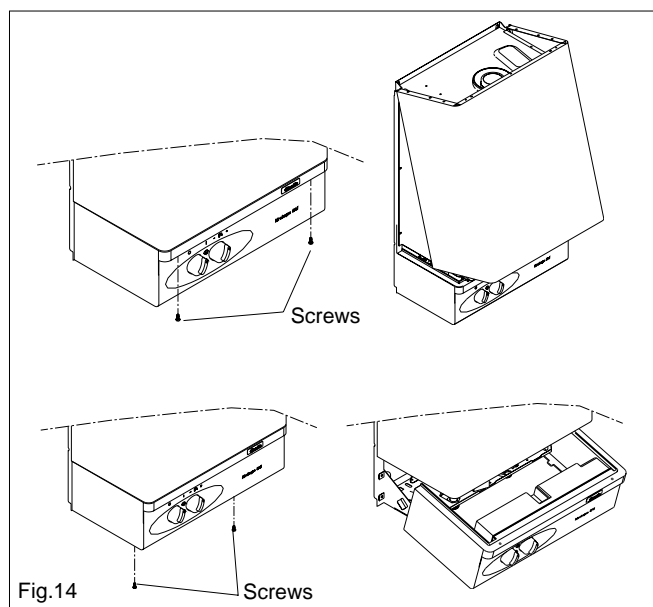

Fig. 14
- locate and remove the 4 screws that secure the controls fascia to the appliance casing (see fig. 14);